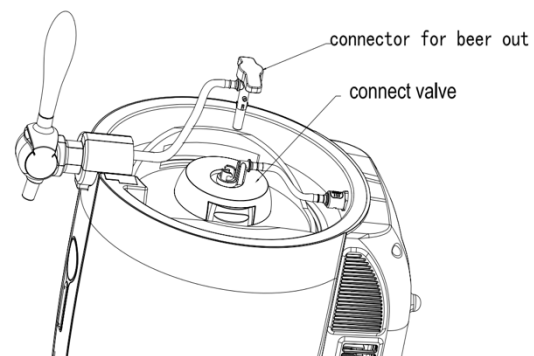

FIGURE 9
11. Insert the beer outlet quick connector assembly at the end of the beer pipe on the tap assembly facing the metal socket hole in the center of the wine valve assembly and rotate it clockwise to fit into the socket (as shown in Figure 9).